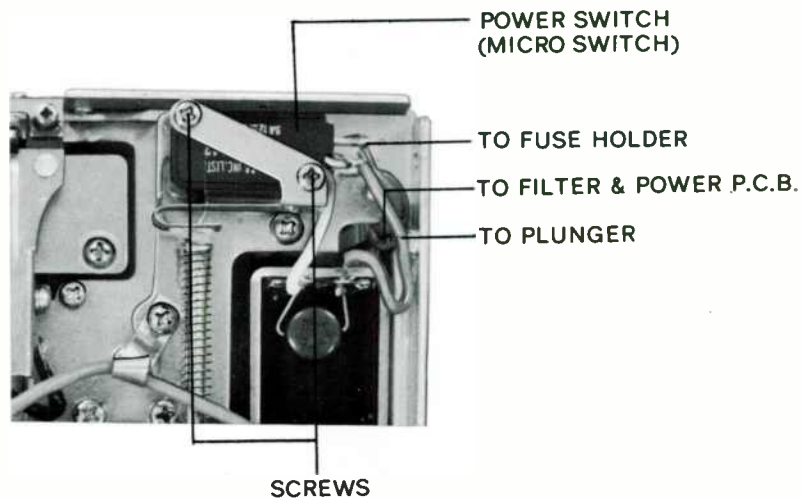

Fig. 8
- (1) Unsolder the three lead wires that are soldered to the terminals of the power switch.
- (2) Remove the two screws from the top of the power switch, and then replace the new power switch.
- (3) Solder wires as illustrated in Fig. 8.